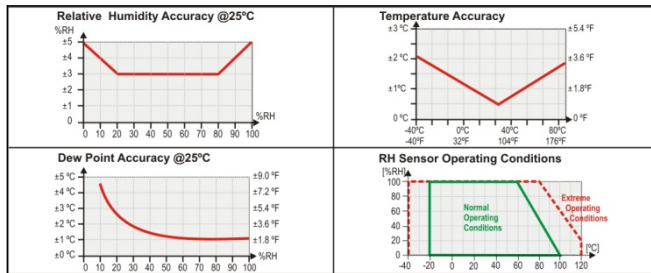

Fig. 01 - RH and Temperature accuracies
- Accuracy:** Refer to Fig. 01;
- Operating limits:** Sensor and probe (RHT/DM): see Fig. 01;
Humidity sensor has a total span of 0 to 100 % and accuracy of 3 % at 25 °C, as showed in Fig. 01. This 3 % RH error is the same no matter if the total span is configured (0 to 100 %) or a narrower span (like 20 to 80 %).